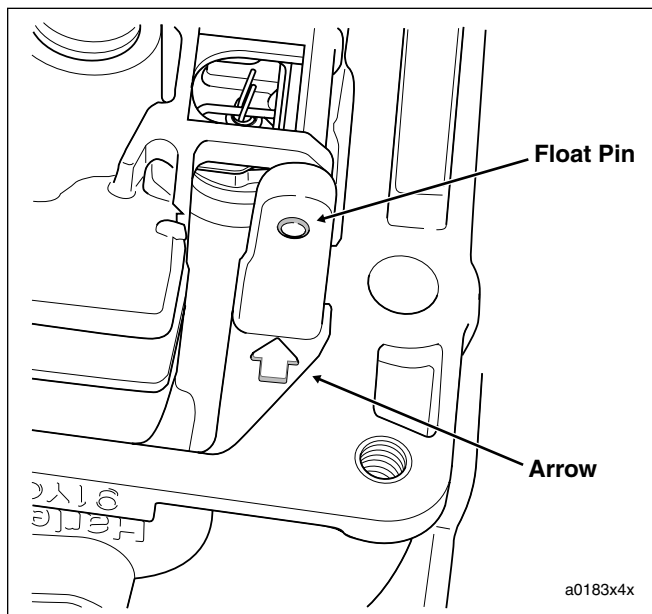

Figure 4-7. Remove Float Pin in Direction of Arrow
2. Using a small center punch and hammer, carefully tap float pin from holes in pedestals. The rounded pedestal has an interference fit to ensure that the float pin is securely held, so always tap out the pin in the direction of the cast-in arrow (that is, from the interference side). See Figure 4-7.